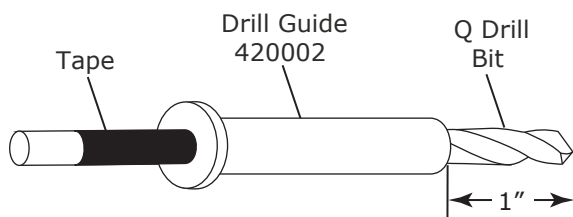

Figure 5
1. Measure one inch from tip of drill bit and bottom of drill guide. Tape off drill bit so as not to pass one inch mark (See Figure 5, below).